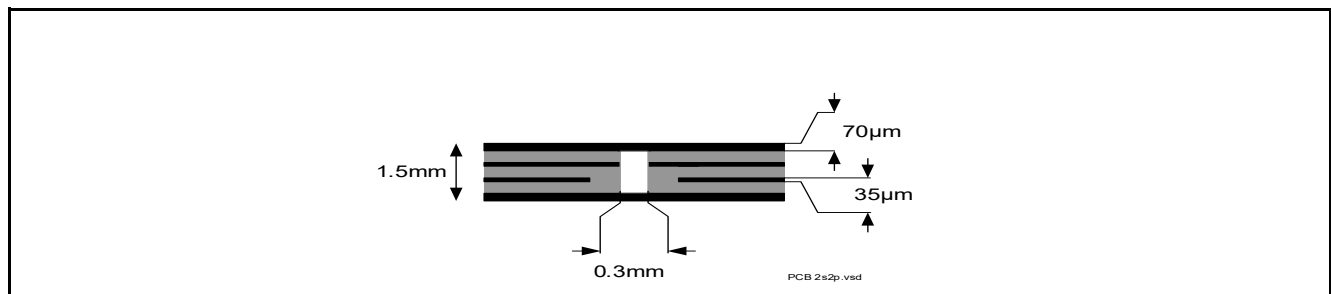

Figure 4 2s2p PCB Cross Section
- 2) Specified R_{thJA} value is according to JEDEC JESD51-2,-5,-7 at natural convection on FR4 2s2p board with 1 W power dissipation at $T_A = 105^\circ\text{C}$; The product (chip + package) was simulated on a 76.4 x 114.3 x 1.5 mm board with 2 inner copper layers (2 x 7 μm Cu, 2 x 35 μm Cu). Where applicable, a thermal via array under the exposed pad contacts the first inner copper layer. Please refer to Figure 4.